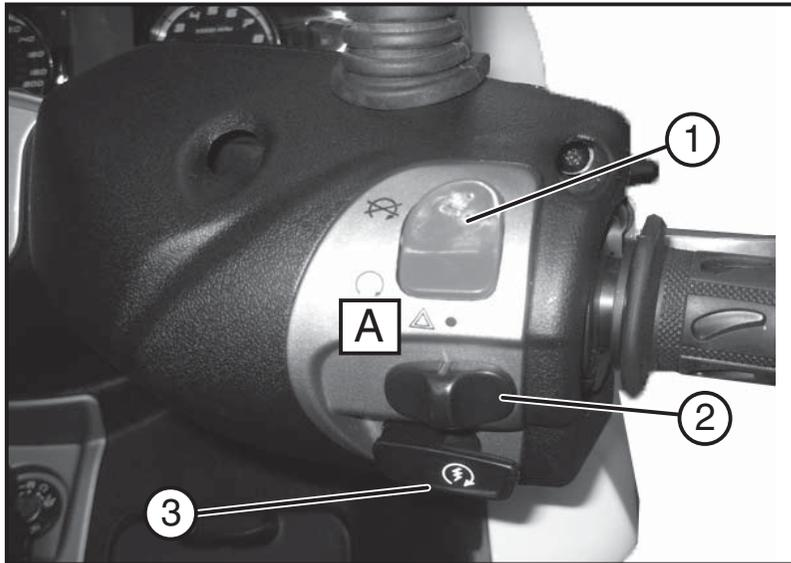

Fig. 01
4.10 - RIGHT-HAND HANDLEBAR MOUNTED CONTROLS (Fig. 01)